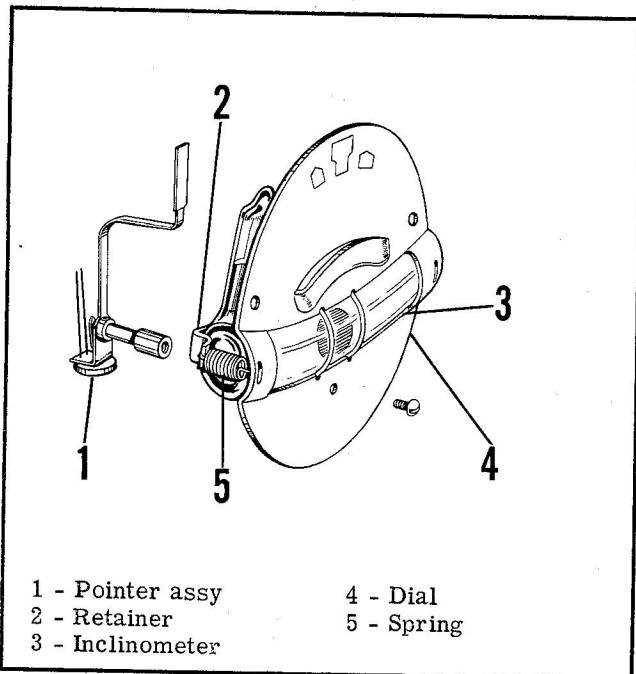
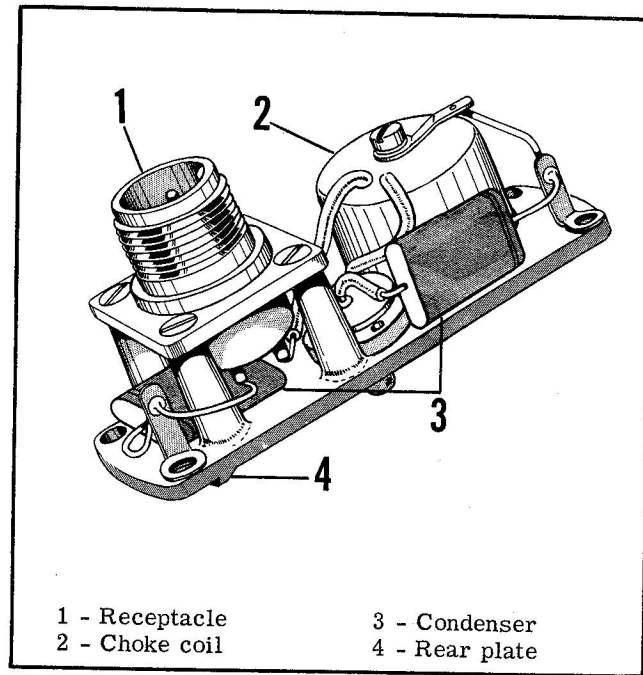

Figure 2-3. Indicator Assembly
Figure 2-4. Rear Plate Assembly
c. Remove two screws (14). Turn the instrument with the dial down, and remove the indicator assembly. (See figure 2-3 for illustration of complete assembly.) Remove one screw (13), and remove the pointer assembly. Remove clip (23), and separate pointer unit (21) from pointer pivot (22). The pointer unit and the pointer pivot are mated parts and must be kept together.
d. Remove two springs (16), and lift inclinometer (19) from dial (15). Untwist two wires (20), and remove retainer (17), and reflector card (18) from the inclinometer.
e. Remove gimbal restraining spring (25). (See figure 2-3 for illustration of complete assembly.) Remove one screw (29) from each anchor assembly, and lift out the anchor assembly. These assemblies consist of one anchor (26) and one ball bearing (27). Do not remove the ball bearing from the anchor unless it is necessary to replace either the ball bearing or the anchor.
f. Remove four screws (34), and washers (35). Lift out damping cylinder assembly (31), and piston assembly (32), and ground (33). The cylinder assembly and the piston assembly are mated parts, and must be kept together. Do not remove the piston from the cylinder except for purposes of inspection.
g. Remove four screws (39), and washers (40). Lift off the rear plate assembly. (See figure 2-4 for illustration of complete assembly.) Lift the assembly straight up to avoid binding contact pivot assembly (53) in ball bearing (56) in the gimbal. Parts of the rear plate assembly may be inspected and tested without disassembly. Remove only those parts requiring replacement.
2-28. REASSEMBLY OF REAR PLATE ASSEMBLY. (See figure 2-4 for illustration of complete assembly.)
2-30. REASSEMBLY OF INDICATOR ASSEMBLY. (See figure 2-3 for illustration of complete assembly.)